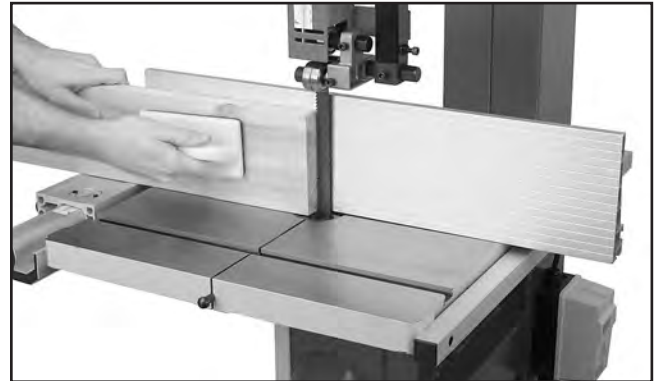

Figure 44. Example of resawing lumber.
Resawing (see **Figure 44**) is the process of cutting a board into two or more thinner boards. The maximum board width that can be resawn is limited by the maximum cutting height of the bandsaw.
6. Using push paddles and a push stick, keep pressure against fence and table, and slowly feed workpiece into moving blade until blade is completely through workpiece (see **Figure 44**).